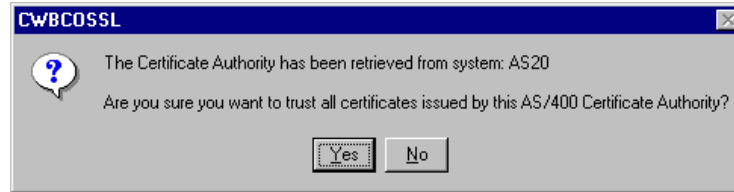

Figure 168. CWBCOSSL message dialog box
- c. The CWBCOSSL tool downloads the certificate authority in binary format automatically. The dialog box, which is shown in Figure 168 on page 201, appears. Click **Yes**.